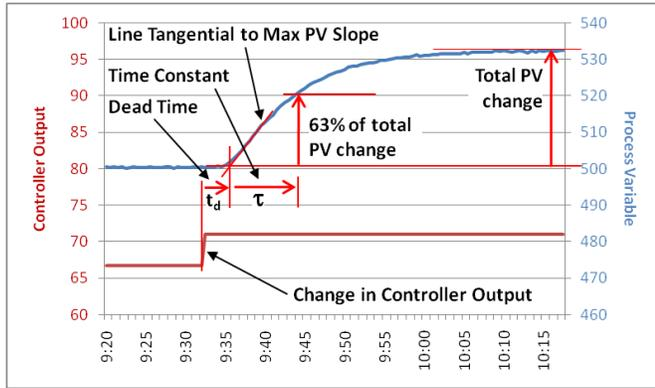

Figure 1
2. Determine the process characteristics (refer to Figure 1):